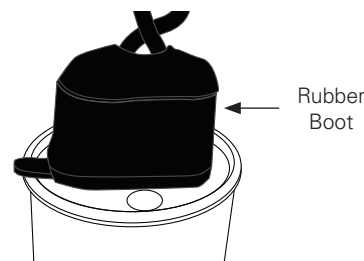

Fig. 5, Rubber Boot on Oil Capacitor Terminals
9. Re-install the black rubber boot over the new oil capacitor terminals as shown in **Fig. 5**.